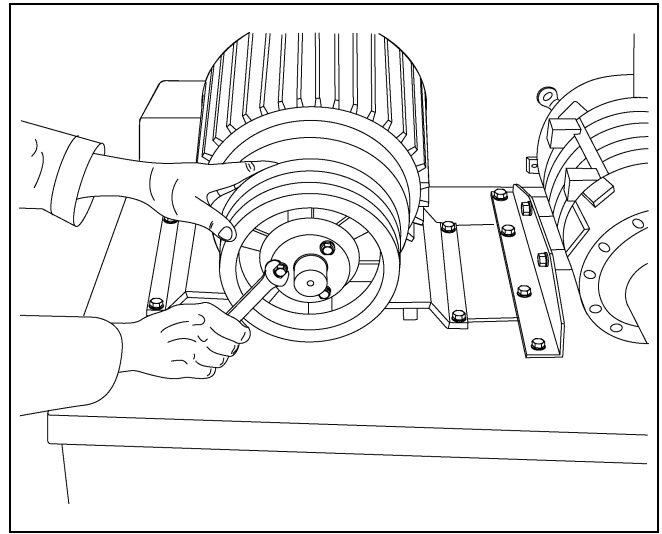

Figure 7G
6. Place the specified pulley onto the motor and align it with the blower pulley. (See Figure 7G.)